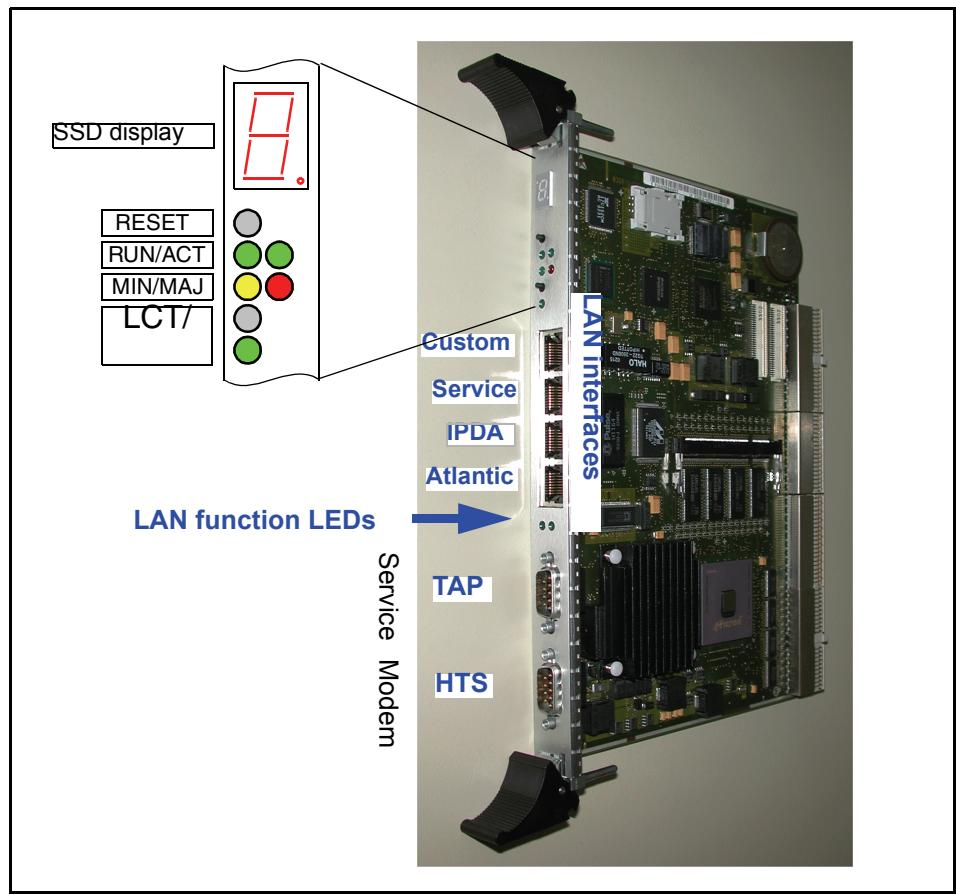

Figure 7 DSCXL board front panel
2. Connect the other end of the cable to the V.24 port of the DSCXL board (see Figure 7).